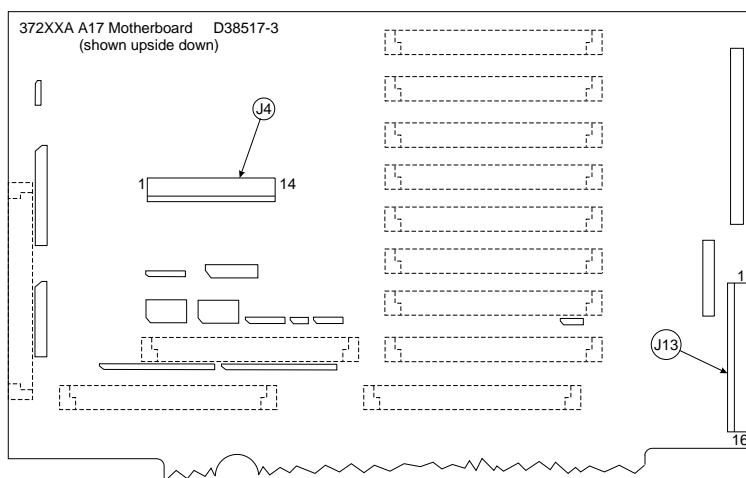

Figure 5-1. Location of Connectors for Power Supply Voltage Checks
- Step 4. Using a DMM or an oscilloscope, measure the DC power supply voltages listed in Table 5-1. Connect the DMM/oscilloscope to the top of the cable connectors at J13 and J4 on the Motherboard (A17). Refer to Figure 5-1 and Table 5-1.
- Step 4. Using a DMM and/or an oscilloscope, measure the power supply voltages at the power supply connector pins that correspond to the Motherboard pins for the + 9, ± 18 , and ± 27 Vdc supplies. Refer to Table 5-1 and Figure 5-1 (previous page).
- Step 8. Using a DMM and/or an oscilloscope, measure the +5 volt power supply at connector J13 on the Motherboard. Refer to Figure 5-1 and Table 5-1, (page 505).